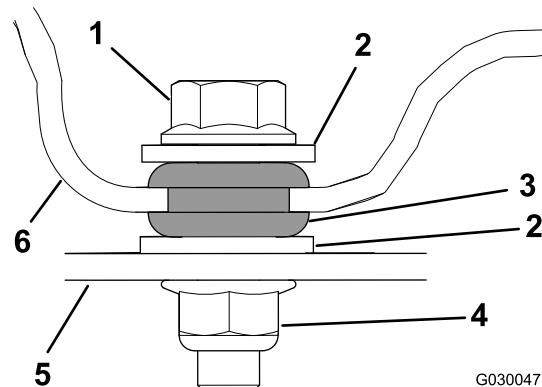

Figure 6
3. Secure the canopy with 4 flange-head bolts, 8 washers, and 4 flange nuts (Figure 6).